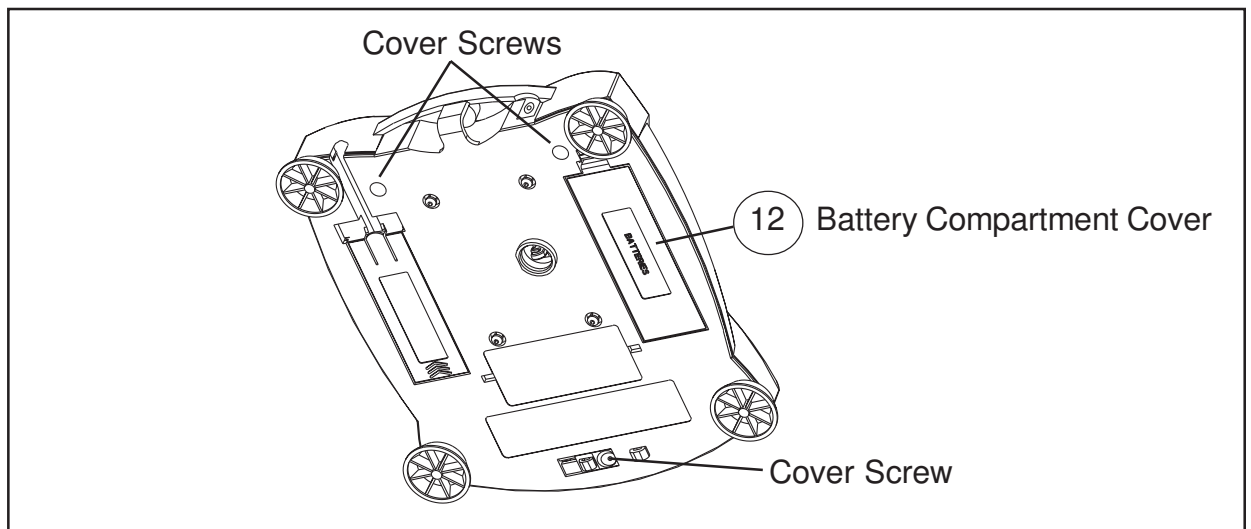

Figure 3-2. Bottom of Balance.
4. If a battery is being used, turn the balance over and remove the Battery Compartment Cover (12) as shown in Figure 3-2.
5. Remove the 4 AA batteries from inside the battery compartment and replace the Battery Compartment Cover (12).
6. Slide the Lockswitch to the unlocked position to gain access to one of the cover screws. Remove the 3 Cover Screws as shown in Figure 3-2.
7. Turn the balance over in an upright position and carefully lift the Top Cover (6) from the balance Base (10).